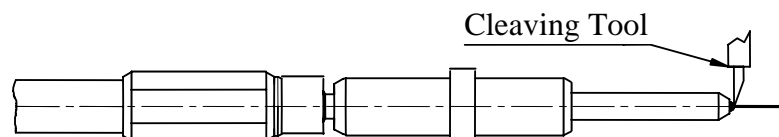

Figure 7 Cleaving the Excess Fibre
- 2.6.3 Carefully cleave and remove the fibre, protruding from the end of the contact optical face, using cleaving tool 453228 or equivalent. The fibre should be cleaved as close to the epoxy resin bead as possible. See Figure 7.